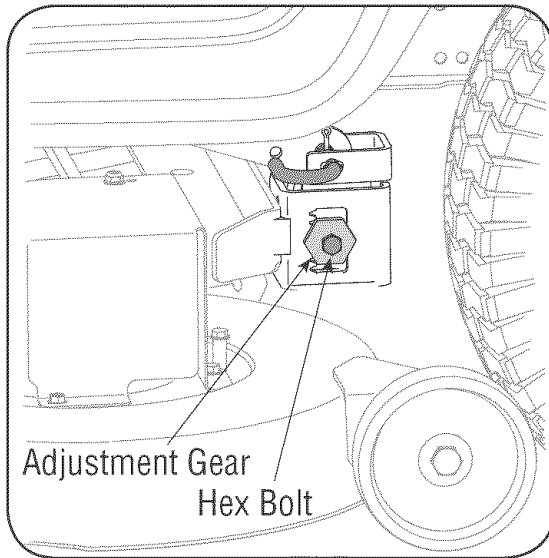

Figure 12
3. Loosen, but do NOT remove, the hex cap screw on the left deck hanger bracket. See Figure 12.